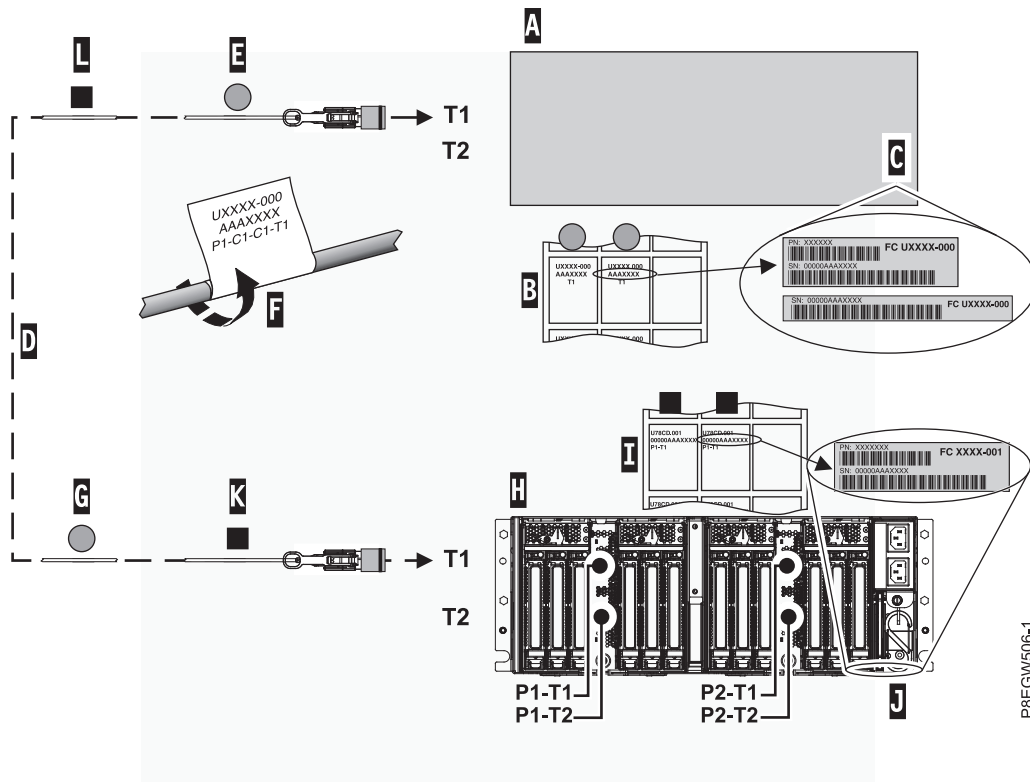

Figure 15. Labeling an expansion drawer cable
Note: While you are completing these steps, refer to Figure 15 on page 19 as a reference.
- g. Attach the leftmost Cx-T1 label to the connector end of the cable **(E)**. See Figure 15 on page 19. Wrap the label with the blank end first so that the location information **(F)** is visible.
- h. Take the second label Cx-T1 from the host system label sheet **(B)** and place it on the opposite end of the cable that attaches to the EMX0 PCIe3 expansion drawer. Ensure that the label is placed more than 100 mm (4 in) from the end of the cable **(G)**. See Figure 15 on page 19.
Note: While you are completing these steps, refer to Figure 15 as a reference.
- a. Locate the EMX0 PCIe3 expansion drawer (H) that you are connecting to the host system.
- b. Locate the EMX0 PCIe3 expansion drawer serial number label sheet (I).
- c. Match the EMX0 PCIe3 expansion drawer serial number (J) to the serial number shown on the EMX0 PCIe3 expansion drawer label sheet (I).
- f. Attach the leftmost Px-T1 label to the connector end of the cable (K). See Figure 15. Wrap the label with the blank end first so that the location information (F) is visible.
- g. Take the second Px-T1 label from the expansion drawer label sheet and place it on the opposite end of the cable greater than 100 mm (4 in) from the end of the cable (L). See Figure 15.